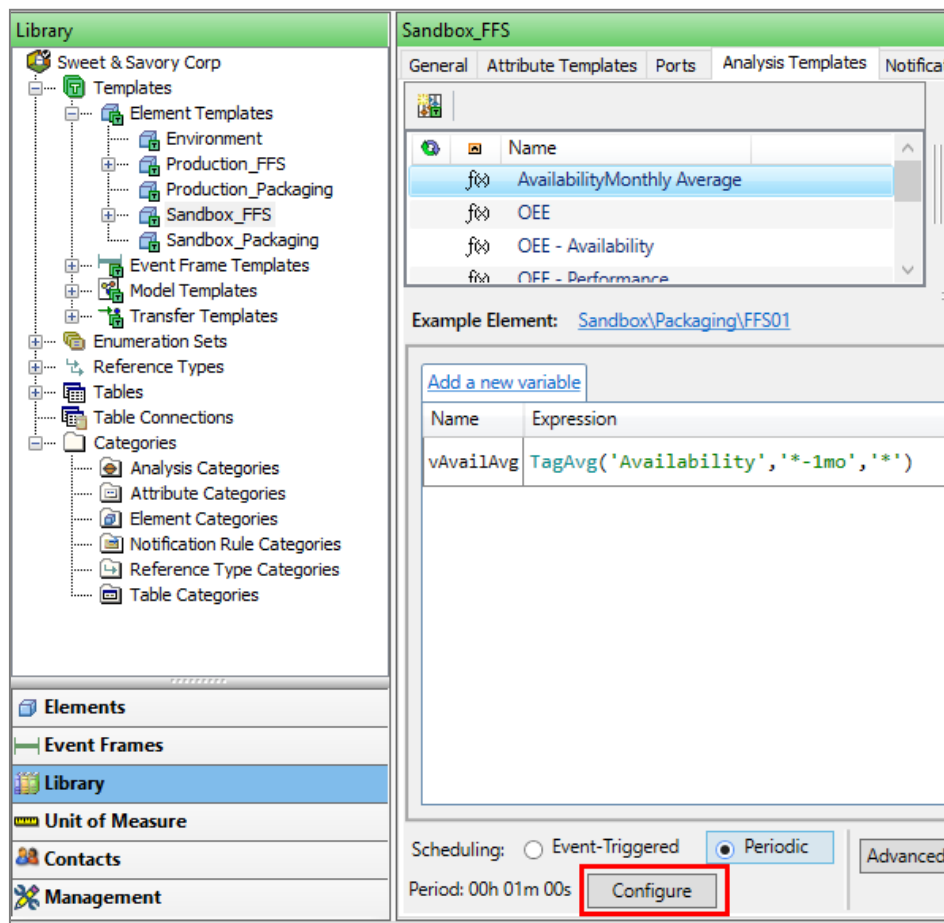

Figure 21. Availability Monthly Average configuration
Step 3. Click on the analysis named Availability Monthly Average (Figure 21).